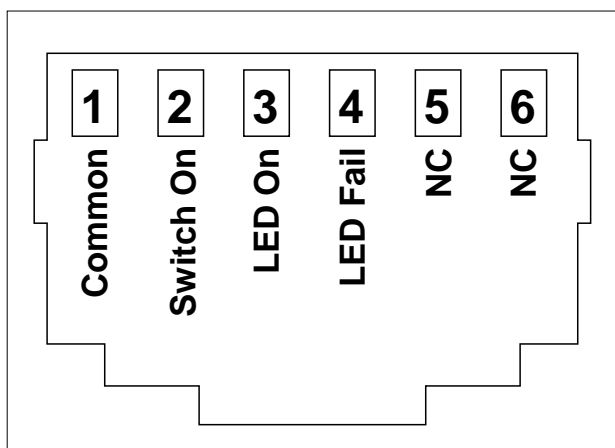

Figure 11: rJ 12 connector with pin signals
See figure 11. Install the AC Power Analyser, proceed as follows:
3. Connect the RJ12 communication cables to your inverter (if applied). Figure 11 shows which pin provides which signal.
7. Integrate a fuse that is appropriate for your cabling, in both AC wires and connect the AC cables to the AC input (fig.11 point 1). Insert the AC plug with cover, included in the package.
At least one in three MasterBus devices must be MasterBus powering. If AC is available at the input (figure 11, point 1), the AC Power Analyser is MasterBus powering.